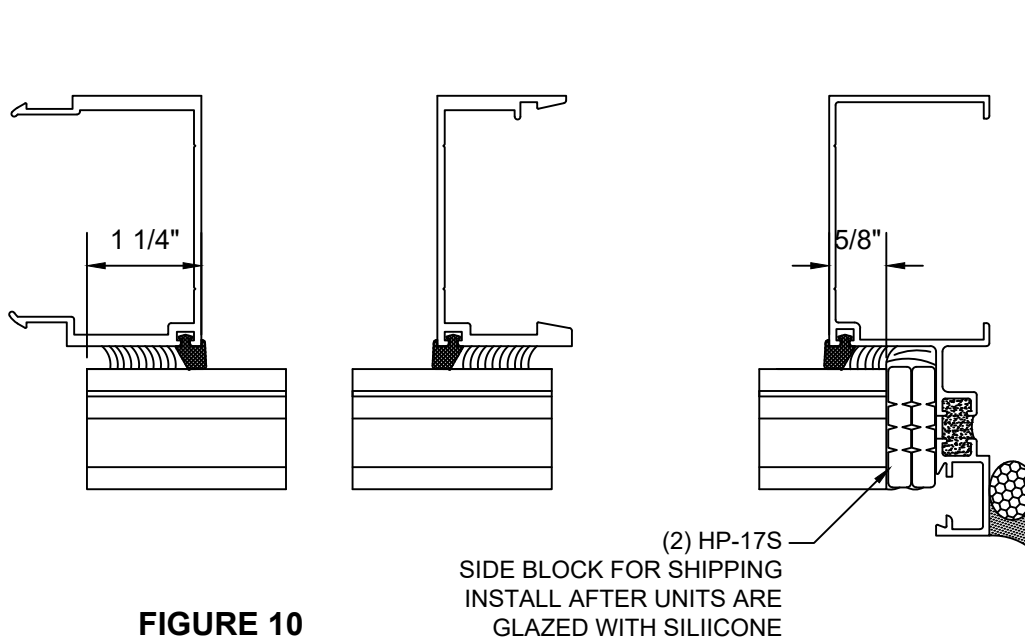
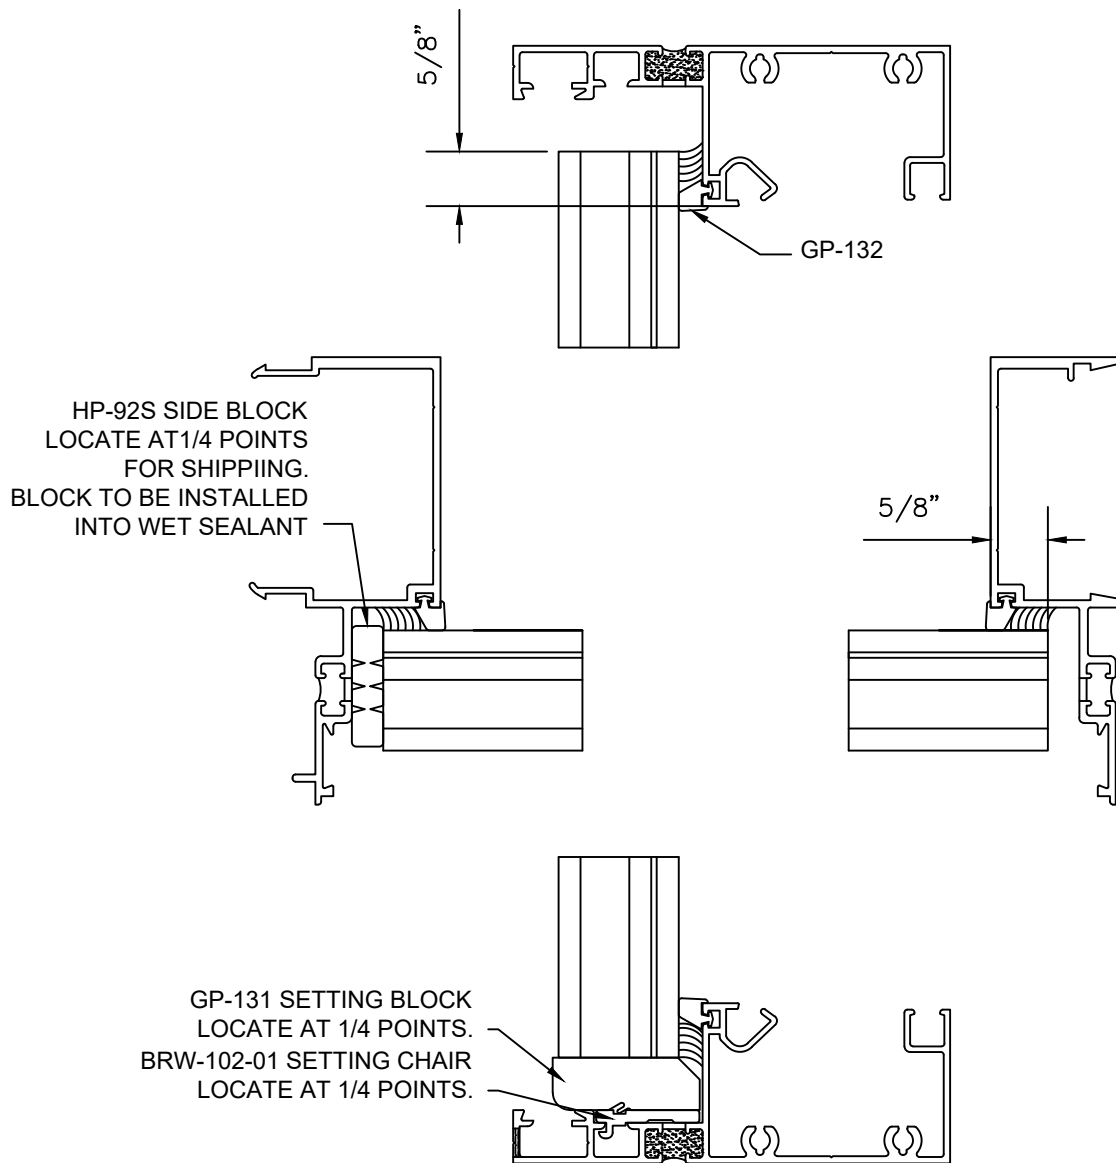

FIGURE 10
FIGURE 11
- 3.3 Structural sealant may be applied either prior to installing glass (with back bead) or after glass has been set. Sealant must be applied from spacer gasket and up edge of glass as shown in FIGURE 10 and FIGURE 11, page 13. Units may be glazed using either Dowsil 795 or Dowsil 983 silicone.
- 3.4 Setting chair BRW-102-01 and Setting block GP-131 will be located at sill member at 1/4 points of glass. See FIGURE 11, page 12. Side blocks must also be used at jamb units and on at least one edge of intermediate units. HP-92S blocks will be used on jamb members and a HP-17S on edges of intermediate verticals.